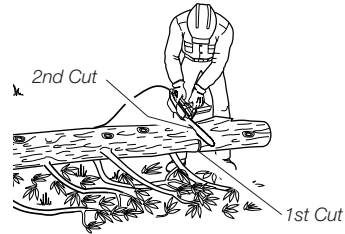

Figure 11 - Bucking Log When Log Is Supported On One End
1. Make first cut on underside of log (see Figure 11). Use top of guide bar to make this cut. Cut 1/3 through diameter of log. This cut will keep section from splintering when cut.